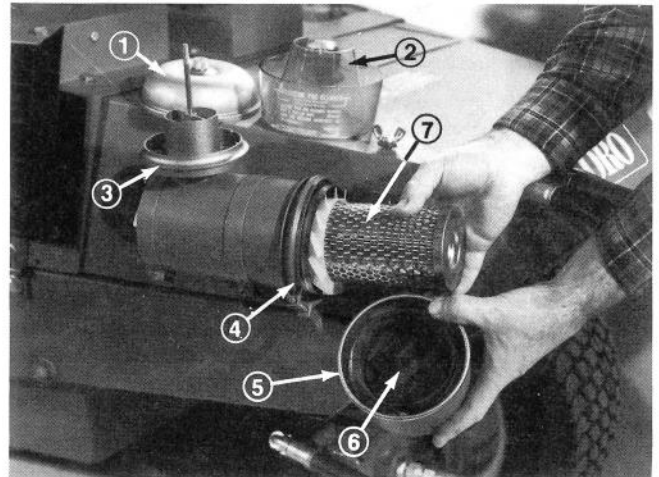

Figure 62
3. Make sure bowl is sealing around bottom of sleeve assembly (Fig. 62).
1. Loosen mounting band and remove cap and baffle (Fig. 62). Remove baffle from cap, clean dirt from cap and re-install baffle.
2. Remove wing nut w/gasket and slide filter element out of air cleaner body (Fig. 62).